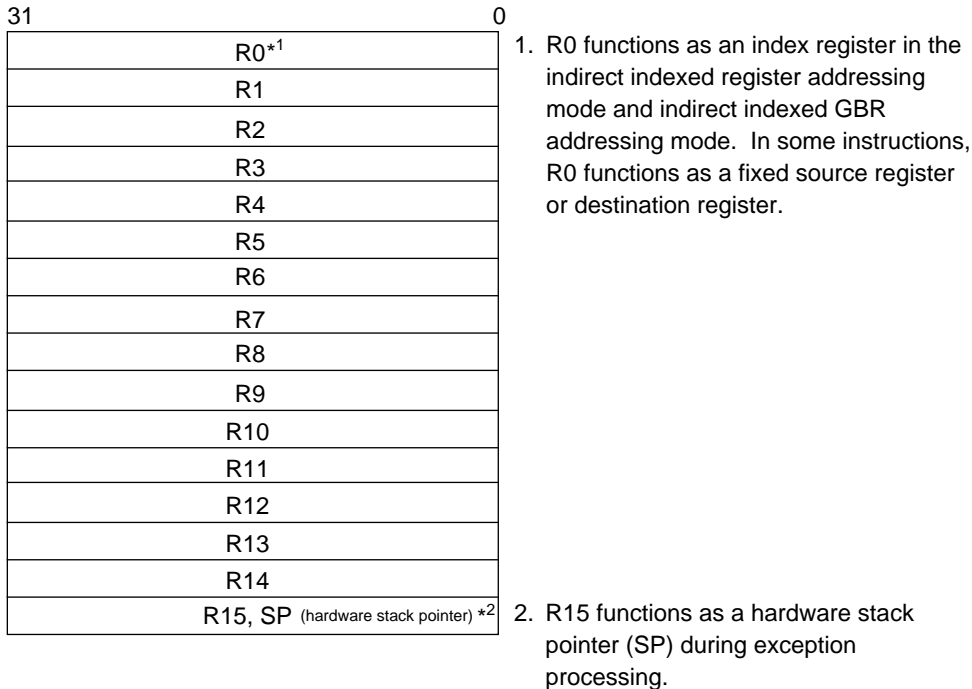

Figure 2.1 General Registers (SH-1 and SH-2)
There are 16 general registers (Rn) numbered R0–R15, which are 32 bits in length (figure 2.1). General registers are used for data processing and address calculation. R0 is also used as an index register. Several instructions use R0 as a fixed source or destination register. R15 is used as the hardware stack pointer (SP). Saving and recovering the status register (SR) and program counter (PC) in exception processing is accomplished by referencing the stack using R15.